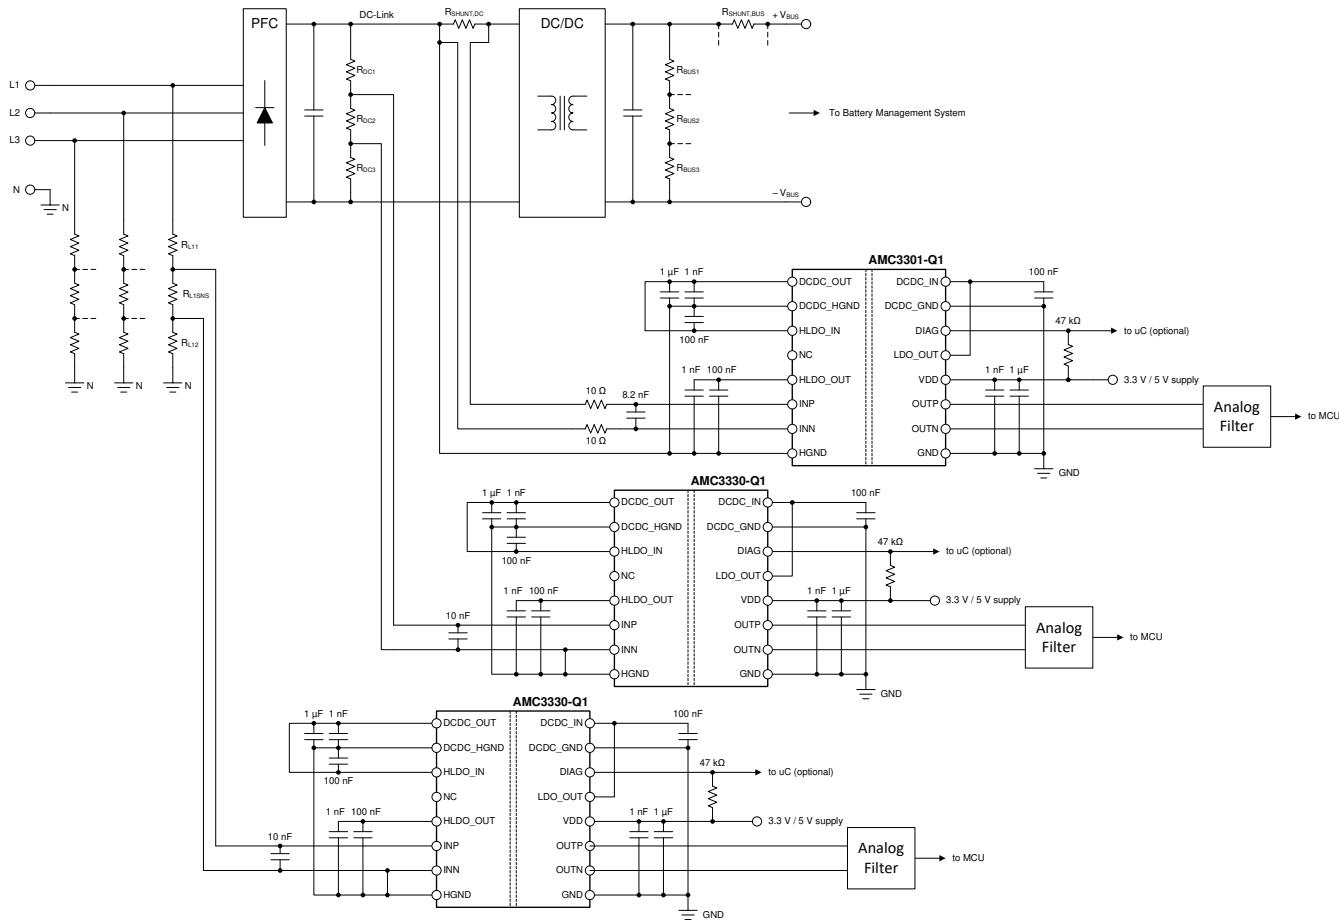

Figure 7-1. The AMC3330-Q1 in an OBC Application
**Figure 7-1** illustrates a simplified schematic of the AMC3330-Q1 in an OBC where the AC phase voltage on the grid-side must be measured. At that location in the system, there is no supply readily available for powering the isolated amplifier. The integrated isolated power supply, together with its bipolar input voltage range, makes the AMC3330-Q1 ideally suited for AC line-voltage sensing. In this example, the output current of the PFC is sensed by the AMC3301-Q1 across a shunt resistor on the positive DC-link rail where there is also no suitable supply available for powering the isolated amplifier. The integrated power-supply of the AMC3301-Q1 eliminates that problem and enables current sensing at optimal locations for the system.